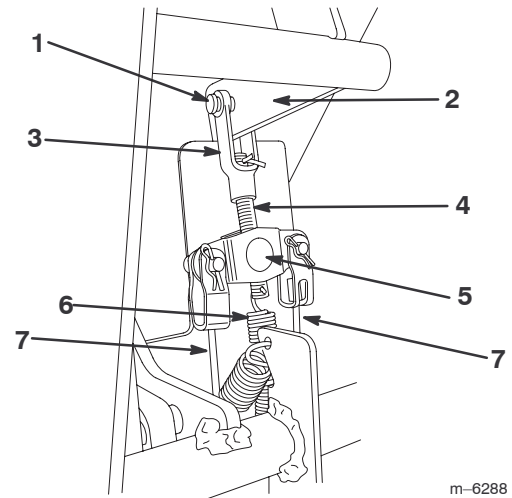

Figure 24
2. Check the brake cables at the brake equalizer (located under the dash) and determine approximately how far up the brake rod the equalizer needs to travel so that there is no slack in the cables (Fig. 24).
3. Remove the hairpin cotter and clevis pins securing the brake rod clevis (Fig. 24).
4. Disconnect the spring from the end of the brake rod (Fig. 24).
6. Thread the brake rod in or out of the brake equalizer as needed to remove the slack from the brake cables (Fig. 24). Do not overtighten the cables.
7. Install the spring into the hole in the brake rod (Fig. 24).
8. Connect the clevis on the brake rod to the brake lever using the clevis pin and hairpin cotter removed previously (Fig. 24).